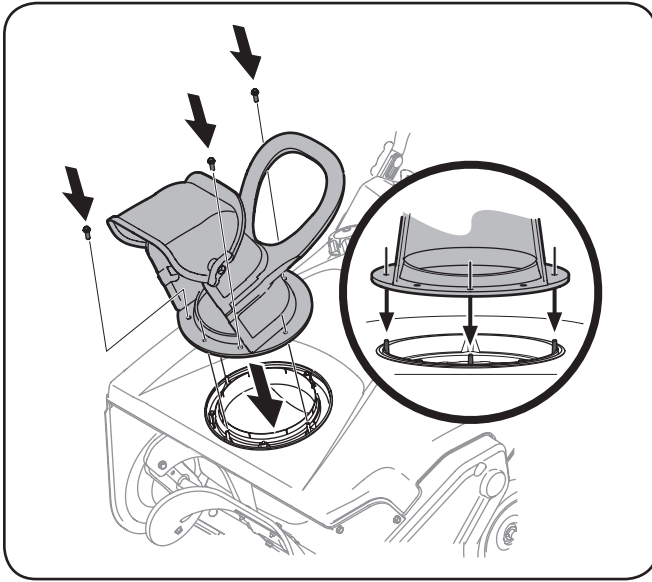

Figure 3-4
2. Align the holes in the chute base with the holes in the lower chute and secure with the previously removed hex washer screws. See Figure 3-4.